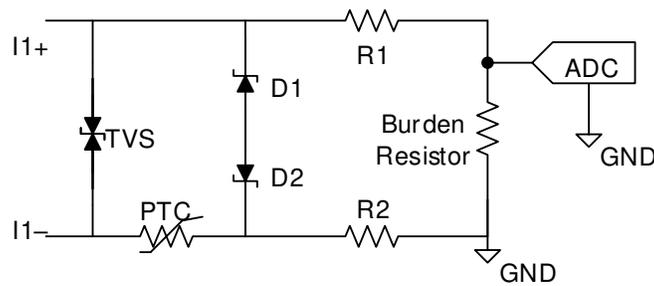
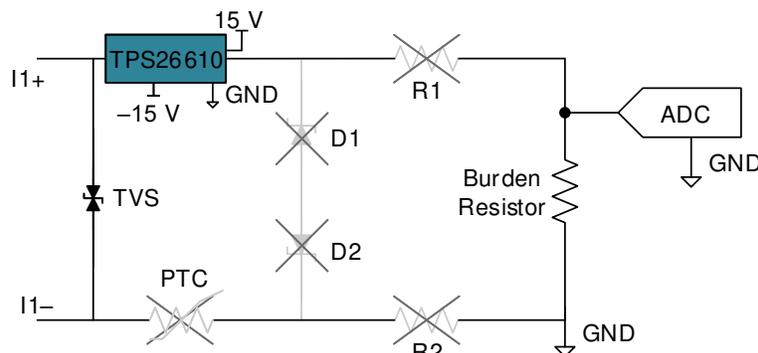

Figure 2-1. Discrete Solution With PTC
Figure 3-1. Current-Loop Protector for AIN – Integrated Protection With TPS26610
Figure 2-1 shows a typical discrete solution based on a positive temperature coefficient device (PTC) used to protect the current input of an analog input module.
- System size due to the BOM in terms of size and count of the components (see Figure 2-1)
The traditional discrete solution with the PTC (Figure 2-1) can be replaced by an optimized solution as Figure 3-1 shows.
Considering the schematics in Figure 2-1 and Figure 3-1, the pros of the current-loop protector TPS26610 over the discrete solution with the PTC are summarized in Table 4-1.